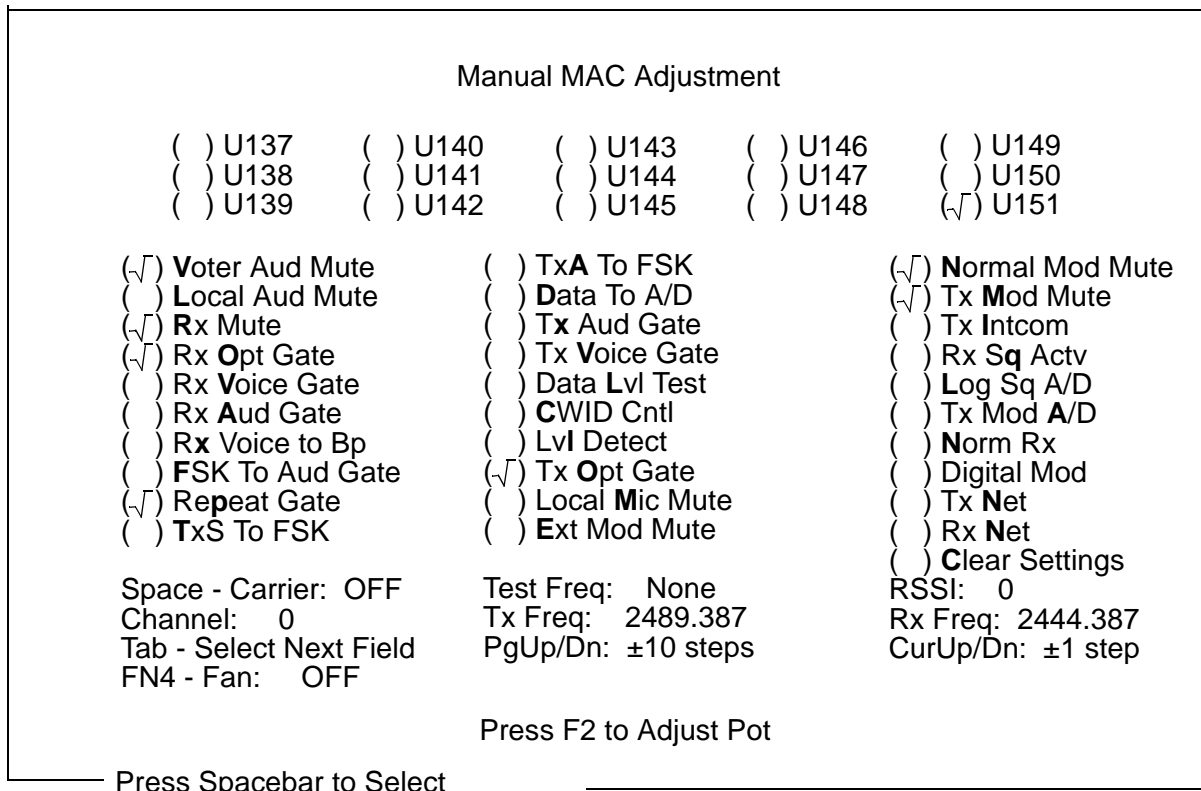

Figure 2-3 MANUAL MAC GATES
17. **At the Channel Controller Site**, with the SMC in the extender card, connect an oscilloscope to P100, pin 29 (Tx MOD) and ground. The data level should be 0.8V P-P. If not, start "2000pgmr -e", then adjust U151 with the following gates ON. (see Figure 2-3).